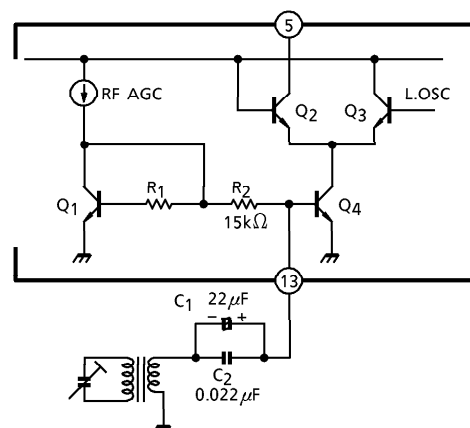

Fig.4
- RF amplifier (See Fig.4)
This stage is composed of emitter-grounded amplifier, the input impedance of which has about  $7.3k\Omega$ . It is necessary to connect as Fig.4, because the condenser,  $C_1$  is available to the audio by-pass of the RF-AGC, the noise of low frequency.